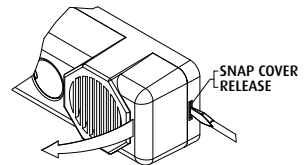

FIG. 1
1. Before mounting remove cover (Fig. 1).
1. Remove the cover from the backplate (Fig. 1).